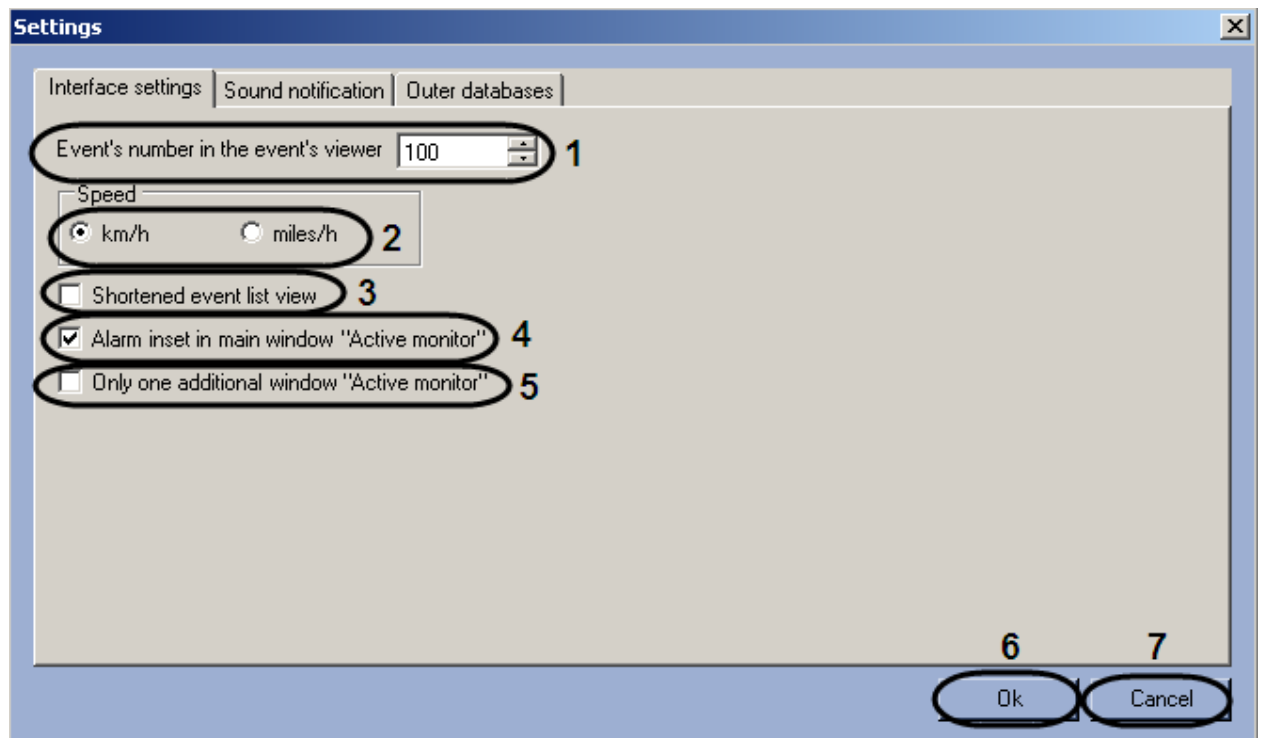

Fig. 7.9—9 The interface settings of the window Vehicle tracer
3. In the «Event's number in the protocol» field (Fig. 7.9—9, 1) enter the maximum number of events that may be displayed in every protocol of the Active monitor component. Updating the